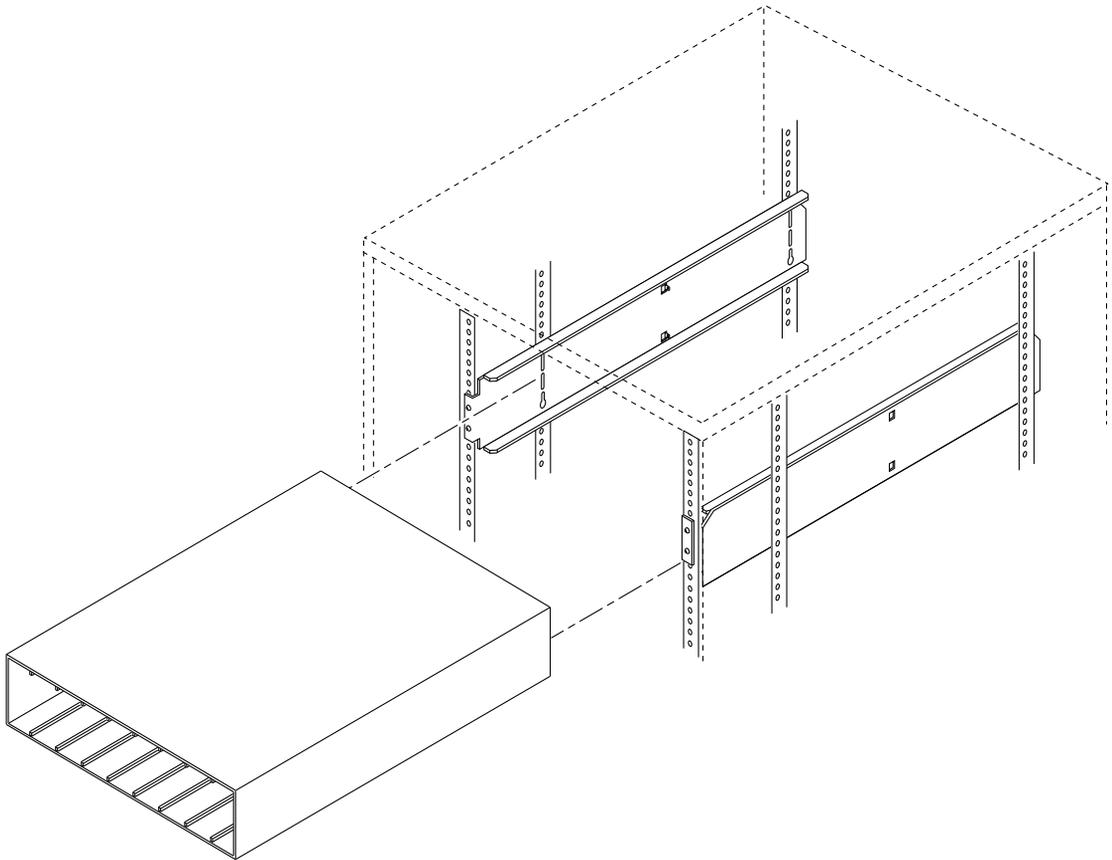

FIGURE 9-2 Removing the Chassis
- b. Slide the chassis out of the cabinet (FIGURE 9-2).**